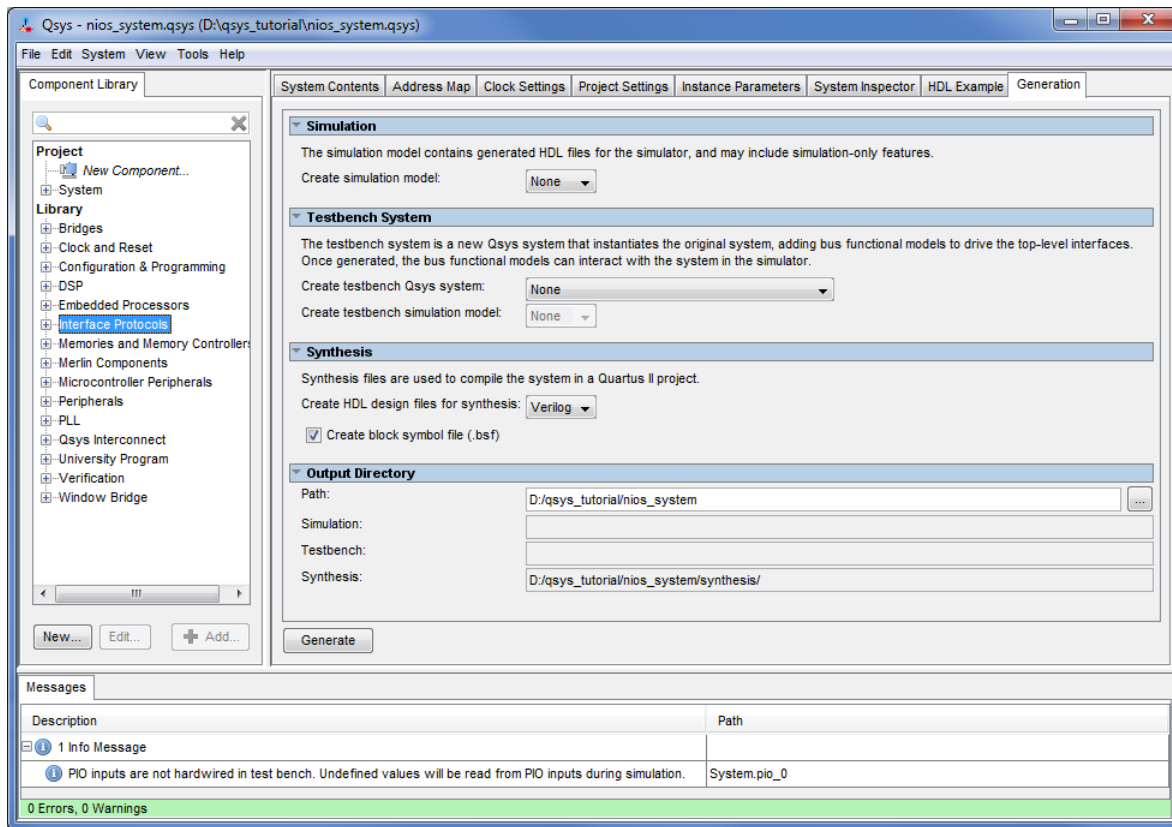

Figure 20. Generation of the system.
15. Having specified all components needed to implement the desired system, it can now be generated. Save the specified system; we used the name *nios_system*. Then, select the **Generation** tab, which leads to the window in Figure 20. Select **None** for the options **Simulation > Create simulation model** and **Testbench System > Create testbench Qsys system**, because in this tutorial we will not deal with the simulation of hardware. Click **Generate** on the bottom of the window. When successfully completed, the generation process produces the message "Generate Completed".